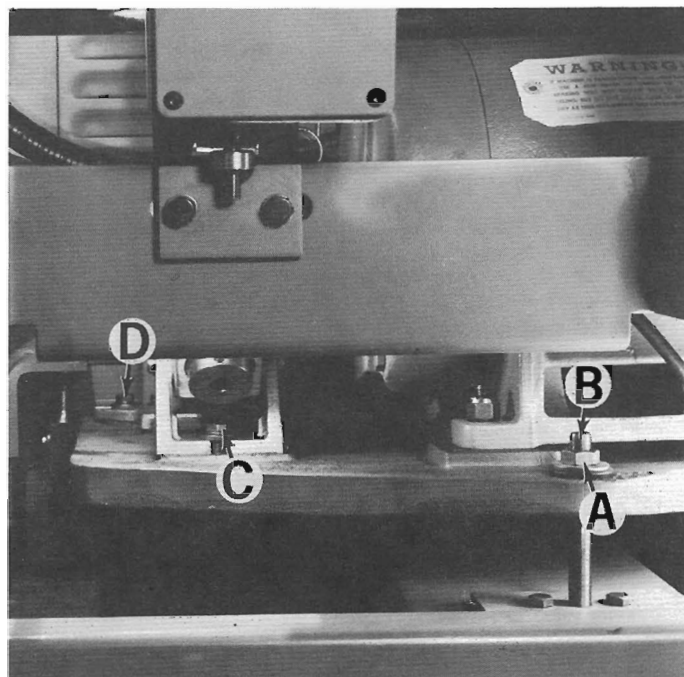

Figure 8 — Brake Mounting Bolts and Drive Belt Adjusting Screw
TO ADJUST BELTS, loosen lock nut "A", Figure 8. Turn adjusting screw "B" clockwise to lower motor plate and tighten belts. Each time after adjusting, start machine spindle and allow it to coast to a stop with brake selector switch in "Off" position to allow belts to equalize their tension.
4. Remove lock nut "A", Figure 8.
7. **TO REMOVE MOTOR BELT** from motor pulley, remove bolt "C", Figure 8, loosen bolt "D" and swing brake assembly to left, Figure 11.